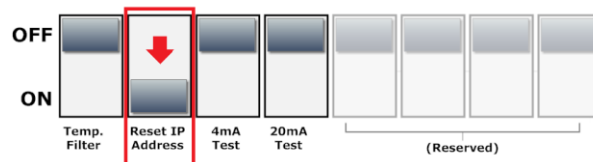

Figure 7: Set the IP reset DIP Switch to ON
Step 1: Turn on the IP Reset DIP switch (see Figure 7)